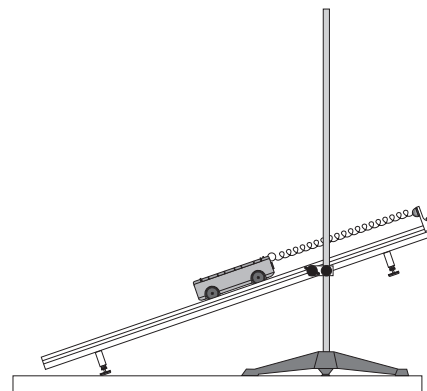

Figure 6.1: Equipment Setup
2. Set the car on the track and attach a spring to one end of the car by inserting the end of the spring in the hole provided in the car. Then attach the other end of the spring to the end of the track (See Figure 6.1).